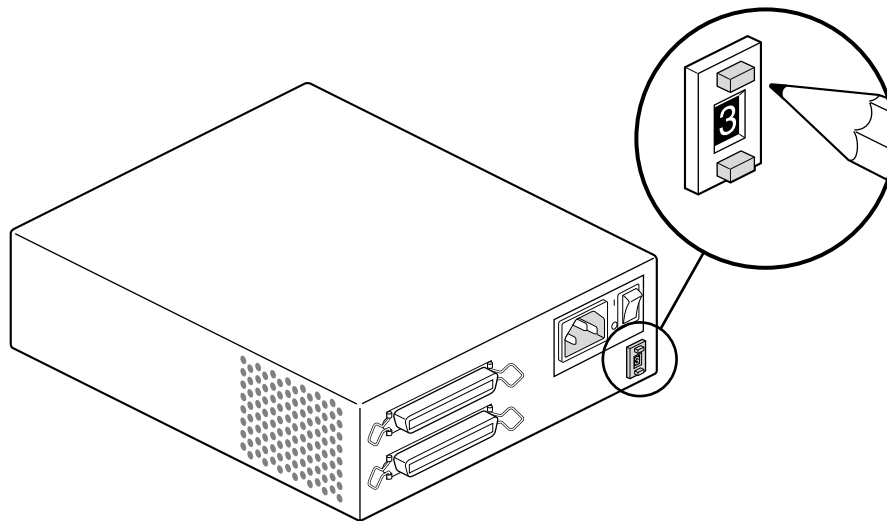

Figure 6-1 Manually Setting the SCSI Address
1. Take the device out of its box and locate the push-button, switch, or address dial. It may be on the rear or bottom of the device. An example is shown in Figure 6-1.